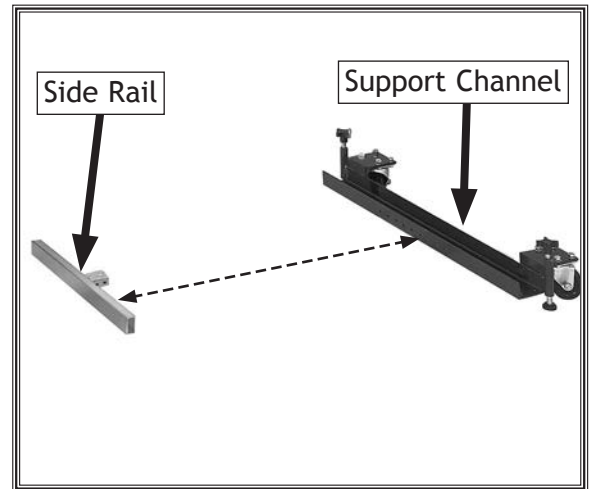

Figure 7. Measuring distance between side rail and support channel (mobile base and extension table not shown for clarity).
8. Measure distance between outer edge of side rail and inside edge of support channel, as shown in **Figure 7**.